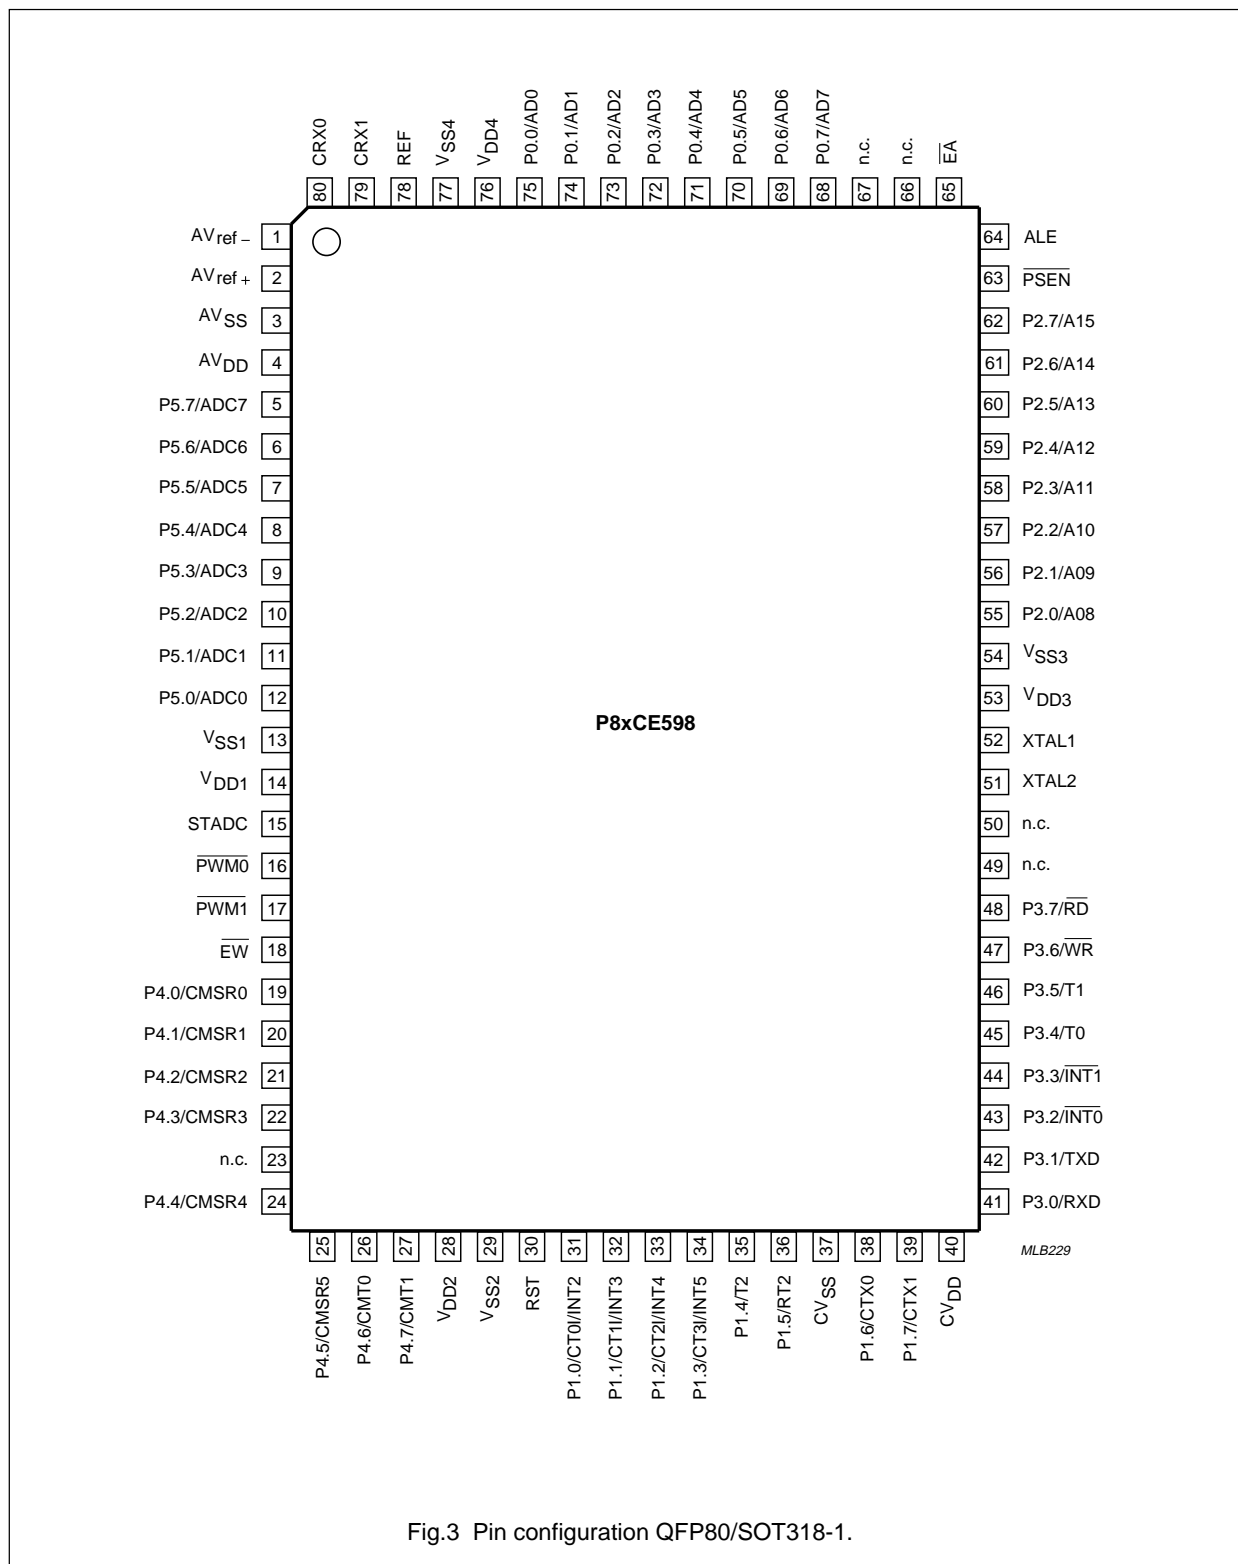

Fig.3 Pin configuration QFP80/SOT318-1.
- One analog part power supply pin ( $AV_{DD}$ ) and one analog part ground pin ( $AV_{SS}$ ), placed as a pair of pins on one side of the package (see Fig.3), providing power supply (+5V) and ground for ADC, CAN receiver and reference voltage.